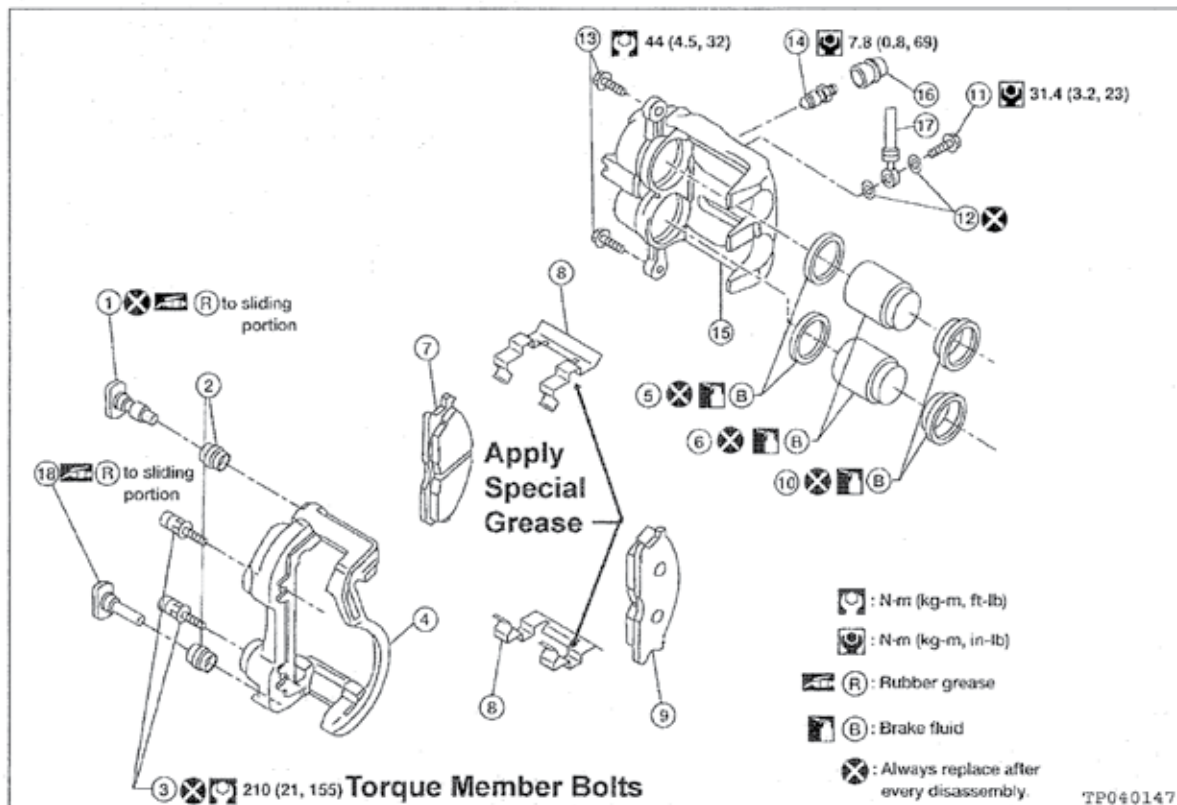
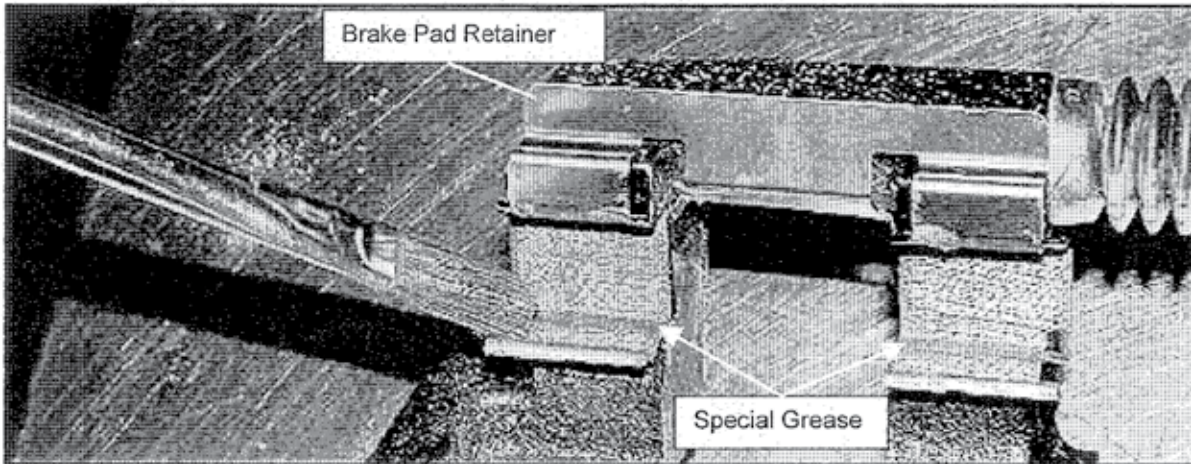

Figure 4
Figure 5
- **IMPORTANT:** Make sure to use new torque member anchor bolts. **Do not** reuse the old ones (see Figure 4).
7. Apply special grease to the brake pad retainers (see Figure 4 below and Figure 5 on the next page).
8. Replace the brake pads with new ones (see Parts Information and Figure 4 on the previous page).